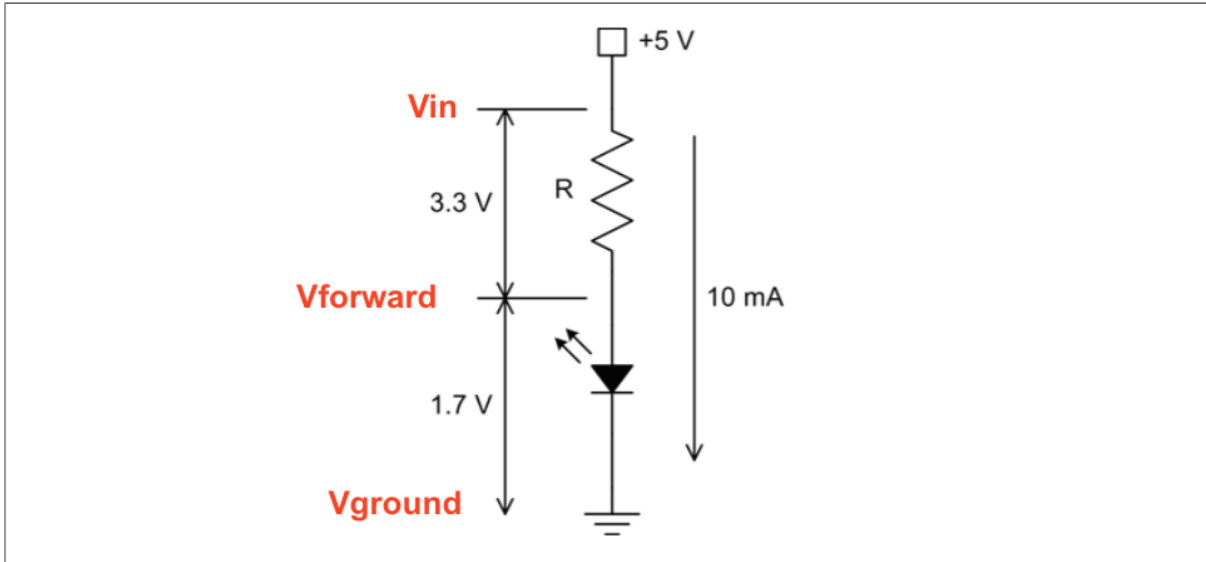

Figure 2-9. Simple LED circuit
Set up the LED circuit and use Ohm's law and Kirchoff's law to determine the properties of the circuit. Referring to Figure 2.9 from "Realworld Instrumentation", below.
1. Use the circuit diagrams in Figure 2.9 to build your circuit between the Arduino, LED and breadboard. For power source, use the Vin pin on the Arduino. For Ground, use the GND pin adjacent to Vin. (NOTE: LED's only permit current to flow in one direction. Attach the long pin closest to +3.3V and the short pin closest to GND.)
1. What color is your LED? Based upon color, the LED shop figure tells us the expected voltage drop at the max allowable current. What should the voltage drop and max current through the LED be? (In Figure 2.9, this is labeled as 1.7 V. In our case, it might not be 1.7 V). Report the values here in your writeup.
4. Now that you have a theoretical voltage drop across the LED (from question 1), use Kirchoff's voltage law to estimate the voltage drop across the resistor. $\sum_j V_j = 0$; the sum of the voltages around a circuit must be zero. (In Figure 2.9, this is labeled as 3.3 V). Report the value here.
6. Now, measure the voltage drop across the resistor using jumpers and the Analog IO pins. Connect jumpers to your breadboard so that they measure at positions $V_{forward}$ and V_{in} (see Figure 2.9). Connect V_{in} to A0 on the Arduino. Connect $V_{forward}$ to A2 on the Arduino.